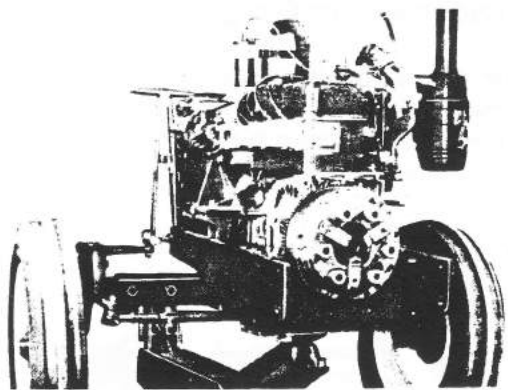

Fig. 3 Front View Detached
11. Set up the garage jack a little to keep the tractor horizontal, slide the jack forwards and the tractor is divided into two as shown in Fig. 3.